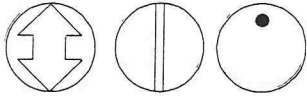

Figure 5: Damper Position Icons
- Make sure that the damper blade is visually accessible or its position is permanently marked on the end of the damper shaft as shown in Figure 5.